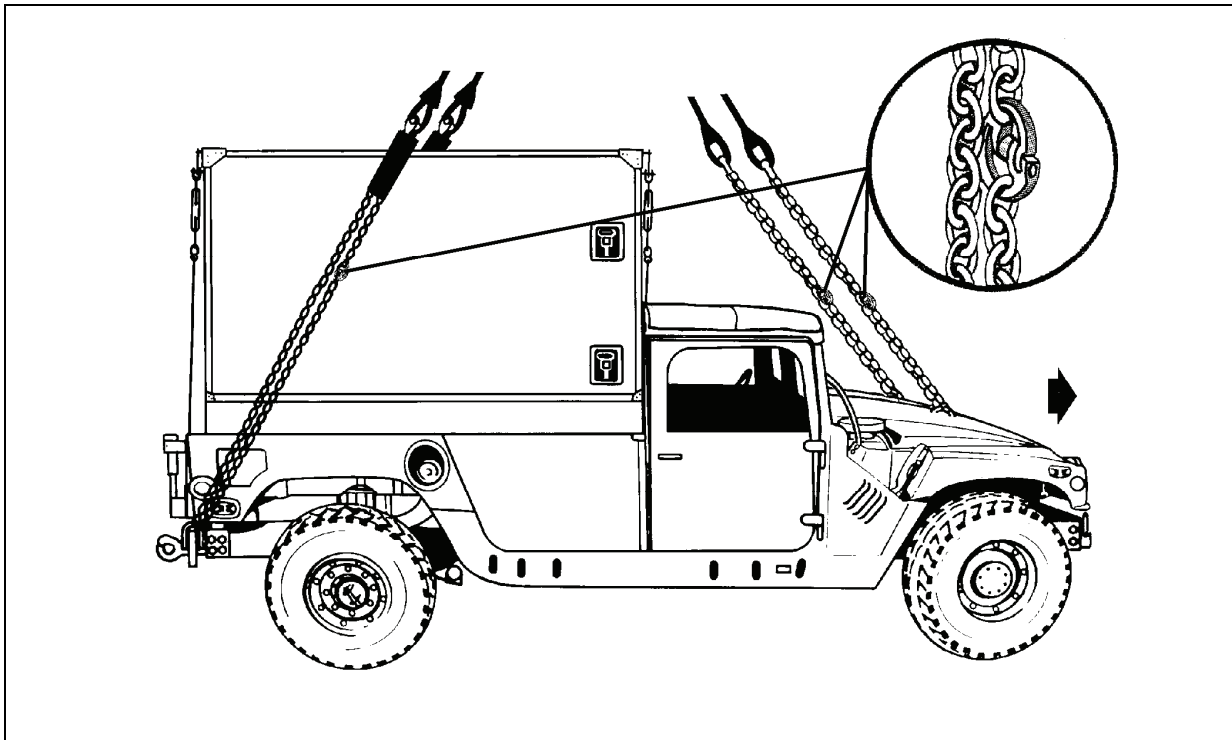

Figure 2-5. M1037/1042 Shelter Carrier with S-250/S-250E Shelter
- **Rigging.** Rig the load according to the steps in Figure 2-5.